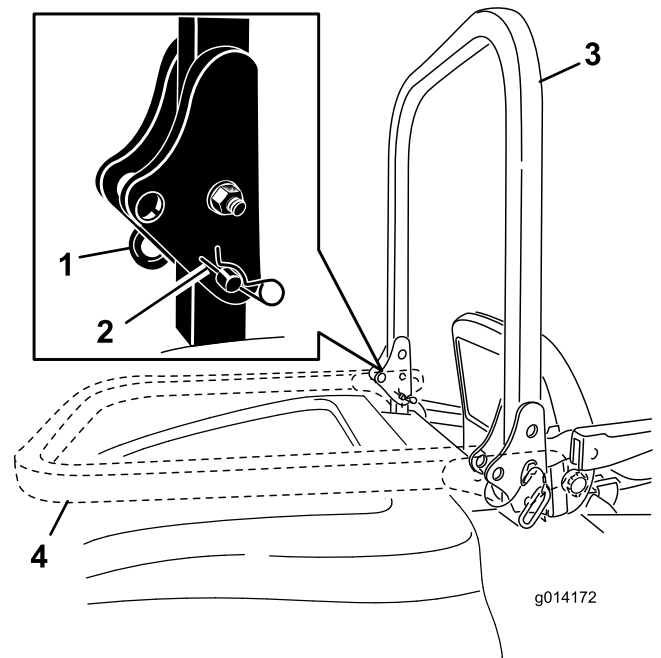

Figure 11
1. To lower the roll bar, remove the hairpin cotters, push the roll bar forward against the springs, and remove the 2 pins (Figure 11).
2. Lower the roll bar to the down position (Figure 11).
3. Install the 2 pins and secure them with the hairpin cotter pins (Figure 11).
4. To raise the roll bar, remove the hairpin cotter pins and remove the 2 pins (Figure 11).
5. Raise the roll bar to the upright position and install the 2 pins and secure them with the hairpin cotter pins (Figure 11).